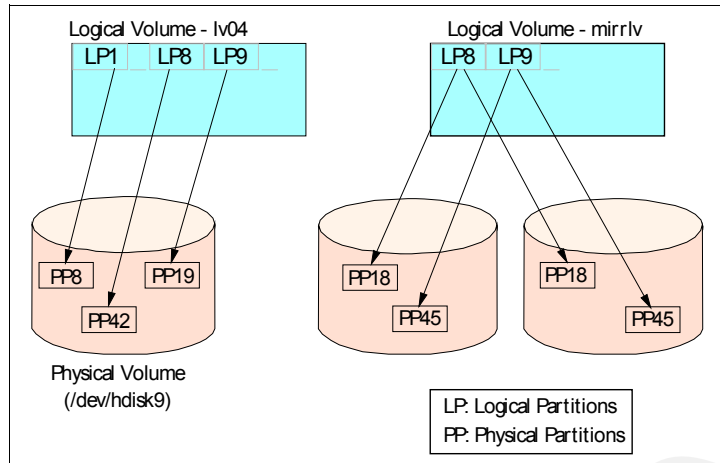

Figure 2-12 Relationships between LP and PP
- ▶ Every physical volume in use belongs to a volume group (VG) unless it is being used as a raw storage device.
- ▶ Each logical volume consists of one or more logical partitions (LPs). Each logical partition corresponds to at least one physical partition (see Figure 2-12). If mirroring is specified for the logical volume, additional physical partitions are allocated to store the additional copies of each logical partition.